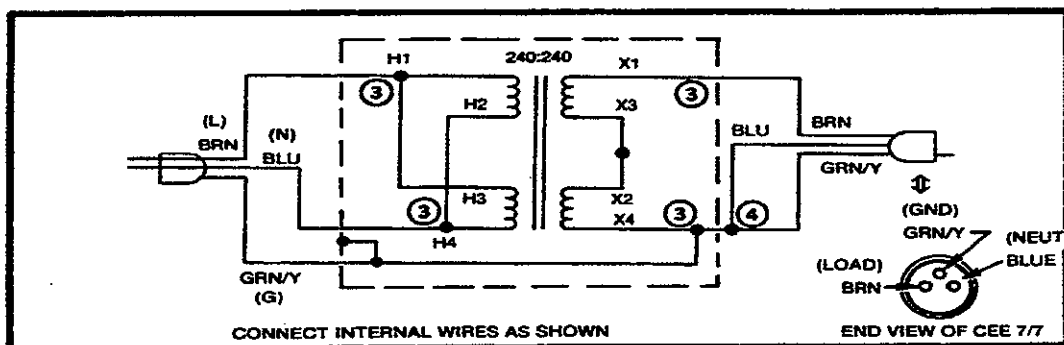

Figure 2 Isolation Transformer
Refer to Figure 2, Details A, B, and C when operating the GC on split phase power.
- ① Install the CEE 7/7 connector (see Figure 2, Detail A) to the bare wire end of the modified cable (P/N 81-821552-00). Carefully follow the color code of CEE 7/7.
- ② Punch out two knockouts in the transformer (see Figure 2, Detail B). Cut the modified cable (P/N 81-821552-00) at midpoint or at a convenient location.
- ③ Place a cable clamp on the cut end of each piece of the modified cable (see Figure 2, Detail C). Attach the ends of the cables to the appropriate transformer wires in 4 places (see Figure 2, Detail C). Use approved splice terminals. Attach both green/yellow ground wires to the transformer case. Tighten the cable clamps that hold the power cables.
- ④ **IMPORTANT!** Make certain that the ground wire is connected only at the transformer to the secondary neutral wire.